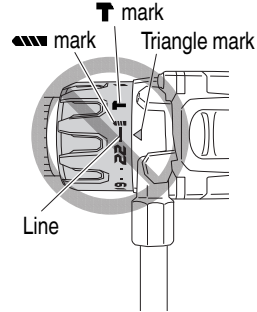

Fig. 19
- Do not use with the clutch dial number at “22” and the line at the middle of the drill mark. Doing so may cause damage. (See Fig. 19)